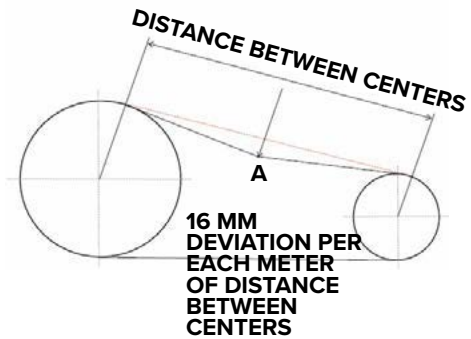

Figure 17
- After the first five (5) hours of operation, check the tension and condition of the belts.
- Every fifty (50) hours, check the tension and condition of the belts.
- The tension is correct when the deflection is between five (5) and ten (10) millimeters at Figure 17, Item A, taking into account the data given in the table below and Figure 17.